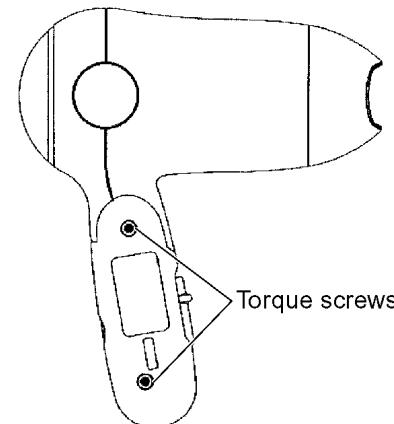

Figure 10
1. Remove 2 torque screws from handle by using Torque head driver as shown in Figure 10.